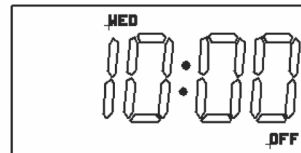

Figure B-16: OFF
- OFF** - Output to permanently OFF and omit the program. Refer to Figure B-16.